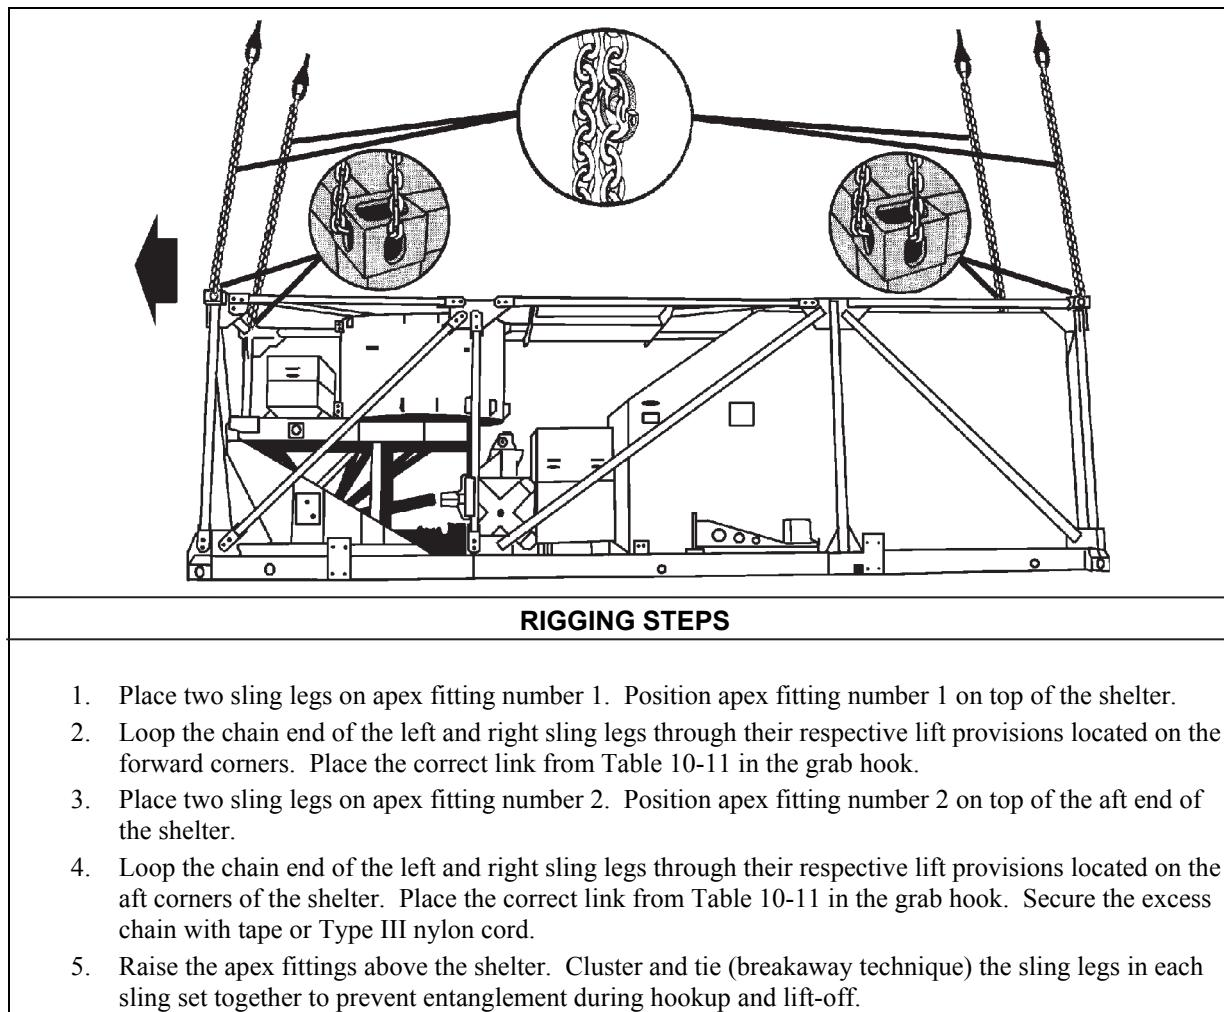

Figure 10-11. Trojan Air Transportable Electronic Reconnaissance System High Gain Antenna Group Shelter
- **Rigging.** Rig the load according to the steps in Figure 10-11.